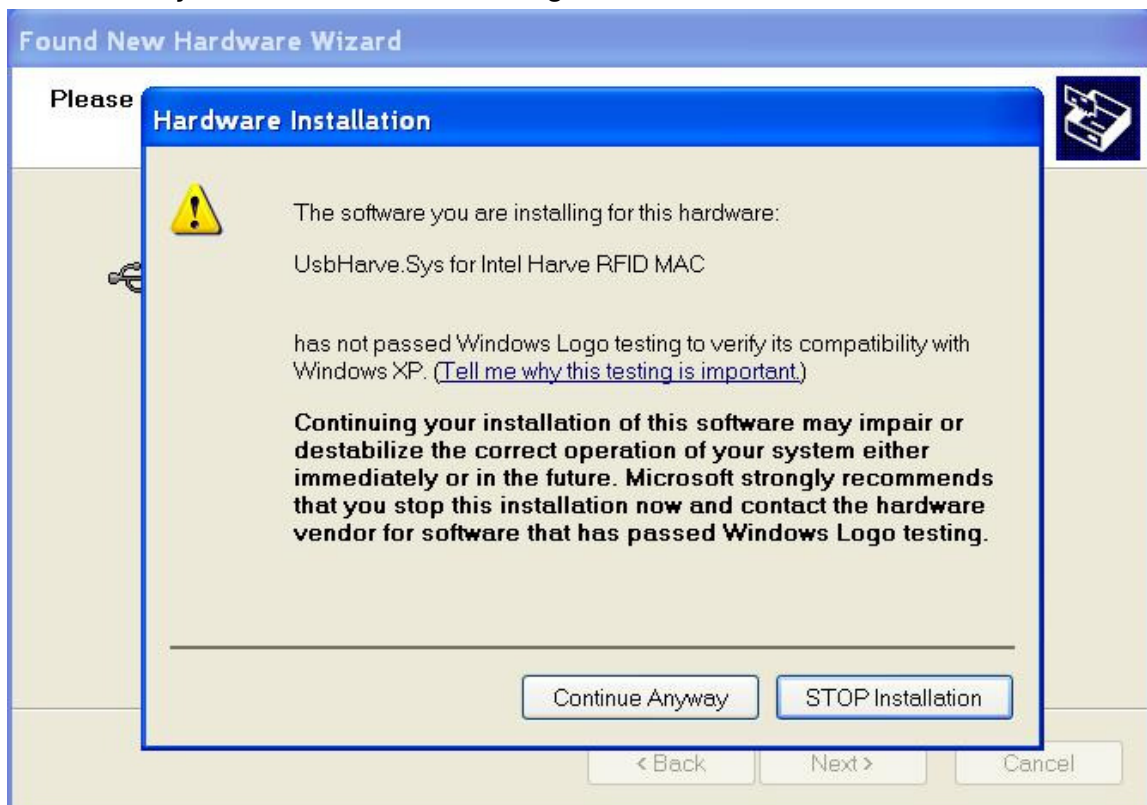
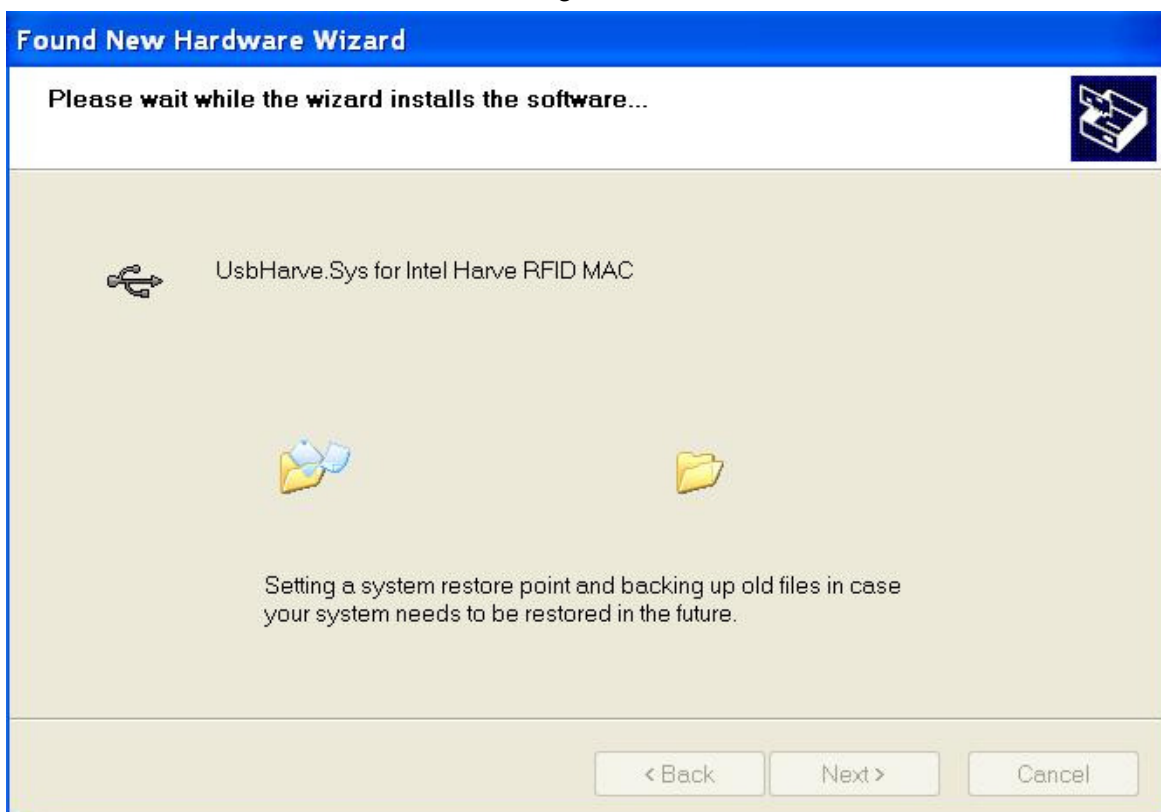

Figure 8
Figure 9
6. When "Hardware Installation" dialog is shown, please click "Continue Anyway" to continue the installation, as figure 8 and figure 9.